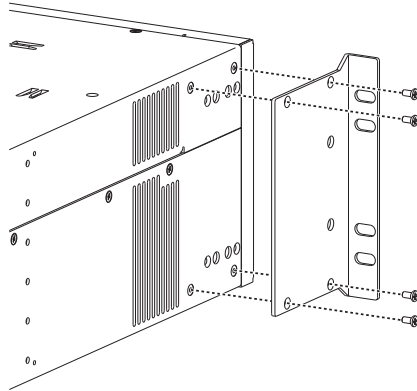

FIG. 6 Attach rack ears to sides of enclosure
1. Align the holes on one of the rack ears with the empty holes on the side of the first enclosure (FIG. 6); insert and tighten each of the four screws provided.